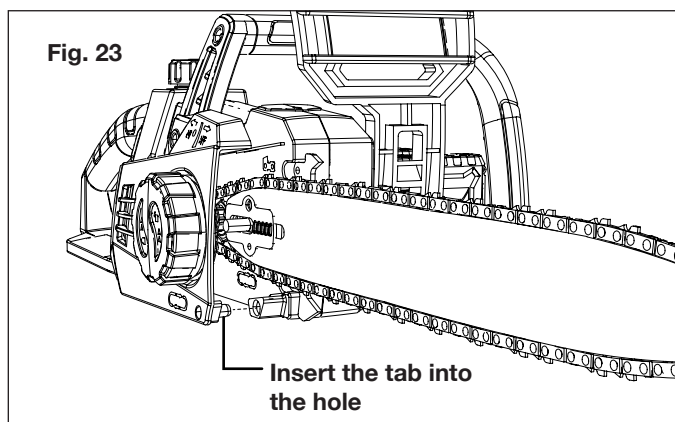

Fig. 23
7. Adjust the chain tension by pulling the guide bar + chain forward, and make sure the chain is fully stretched. Using your other hand, Fit the chain/sprocket end cover back on by inserting the small tab located on the right bottom of the end cover into the hole on the machine body. Turn the end cover + chain tensioning knob clockwise until you find the right chain tension (Figs. 23 – 24).